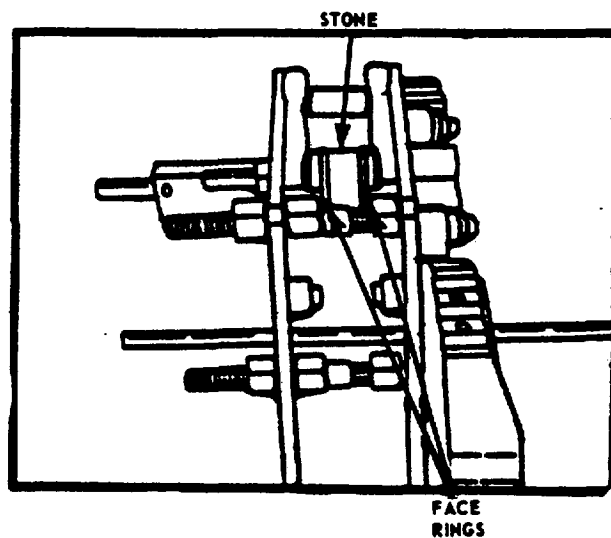

FIGURE 20
- (2) See Figure 20. Rotate Arm Position Knob until the space between Face Rings is divided-half over the stone, half off the stone.